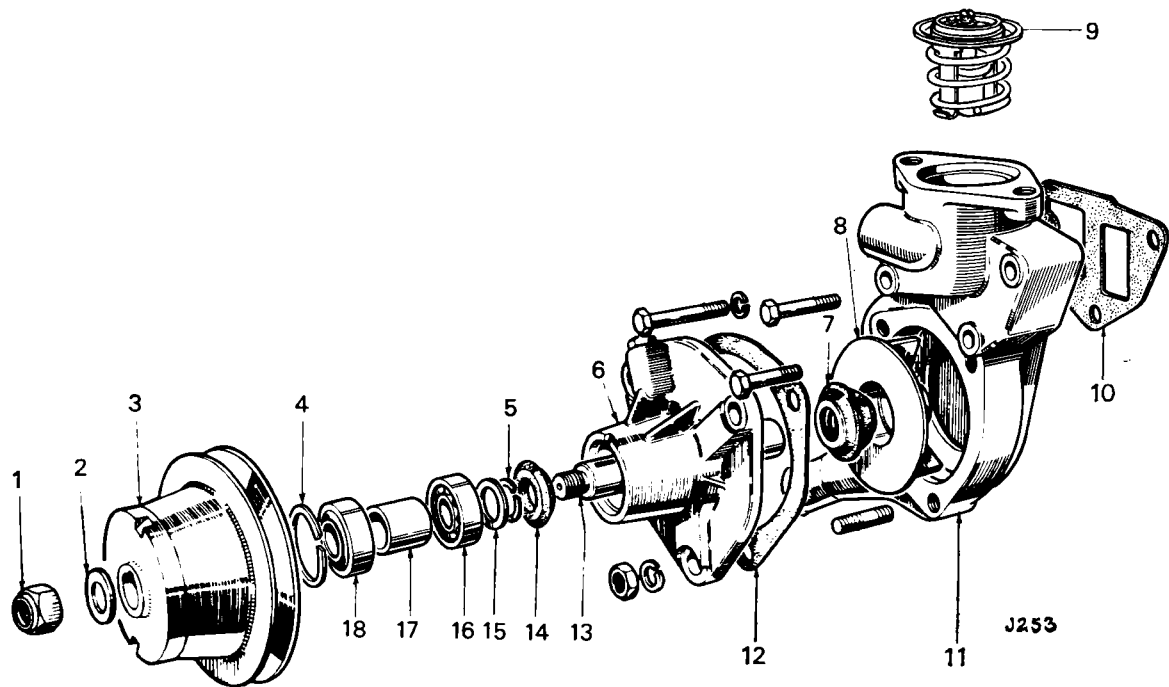

Fig. 8. Exploded view of water pump
KEY TO FIG. 8
Remove fan, pulley and Woodruff key. Remove the nuts securing bearing housing (13) to pump body and withdraw bearing housing. Using Tool No. FTS.127 with press S.4221A remove impeller (16) and seal assembly (14) (Fig. 8). Withdraw circlip (5) and drift out shaft and bearing assembly towards front of housing. Remove spinner (11), circlip (10) washer (9) and press off bearings (6 and 8) and distance piece (7).
Assembling the Water Pump (Figs. 8 and 10)